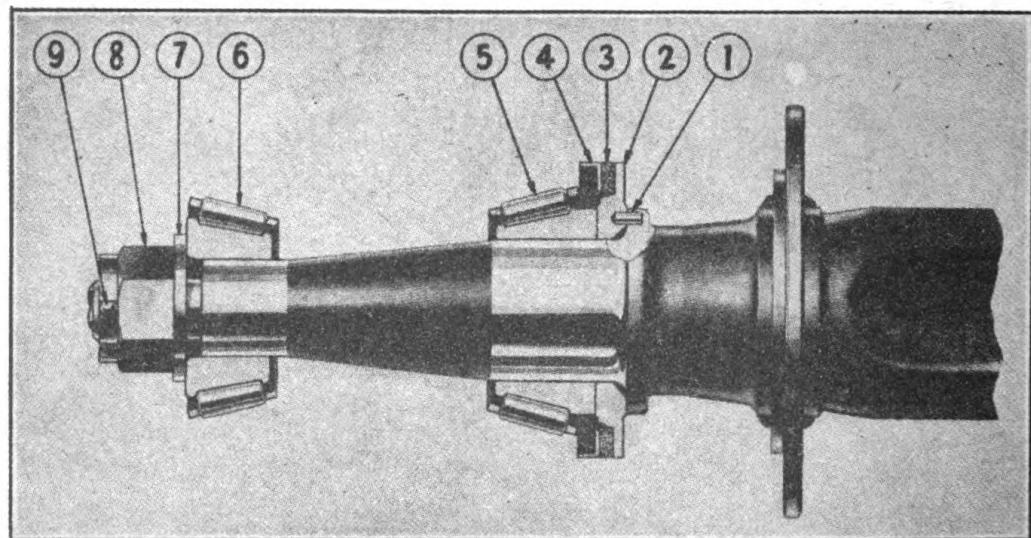

FIGURE 71. AXLE—CUTAWAY VIEW
*b. Installation.*—(1) NOTE: Before installing the hub on the axle, all bearings should be washed in cleaning fluid, a stiff brush employed to remove all foreign matter, and bearings thoroughly inspected for pits, chips and signs of wear. All dirt apt to get into hubs should also be removed.
(2) To install the hub, proceed as follows (Figure 71).
b. *Replacement.*—(1) NOTE: Before installing the hub on the axle all bearings should be washed in cleaning fluid and scrubbed with a stiff brush. Bearings should be thoroughly inspected for pits, chips, and signs of wear. Inspect inner and outer cups for cracks, chips and excess pitting. All dirt apt to get into hub should be removed.
(2) CAUTION: Always install felt, felt retainer, and bearing in hub assembly instead of on axle spindle.
(3) *Installation of hub* (Figure 71): (a) Repack the space in the hub between the two cups with new grease. Put about a 1/8" layer of grease on the inner and outer bearing cups and repack both inner and outer bearings.